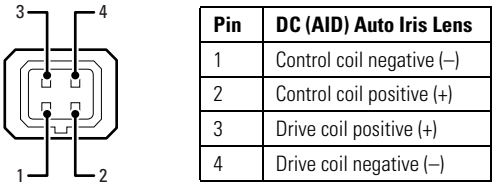

Figure 3. Lens Pin Connections
- c. Connect the auto iris lens to the 4-pin connector located on the side of the camera. Refer to Figure 3 for pin designation and iris drive connector information.